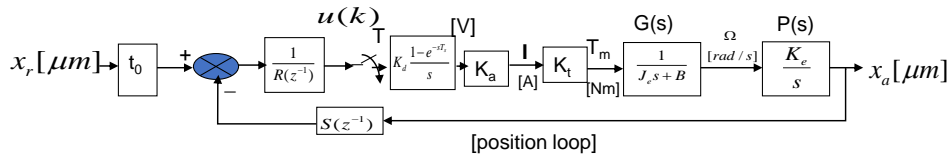

Figure 3: Pole placement position controller.
6. a) (20) Design a pole placement controller in  $z$  domain (Figure 3) using a desired damping ratio of  $\varsigma_m = 1.1$  and natural frequency  $\omega_m = 10[rad/s]$ . (Note: be careful, it is an over-damped system). The sampling time interval is  $T_s = 1ms$  and the digital to analog converter has 12 bits with  $\pm 10V$  range. You can use MATLAB's command (c2d) to obtain ZOH equivalent of the open loop transfer function of the machine. (Note: c2d in MATLAB is equivalent to  $(1 - z^{-1})Z \frac{G_0(s)}{s}$ ). Express the control command  $u(k)$ . Use symbolic parameters during derivation of the pole placement controller, and put the numbers at the end.
6. b) (15) Evaluate the steady state error of the pole placement controller designed in question 6.a (Figure 3) for a step input of  $x_r(t) = U$ . (Evaluate it symbolically).